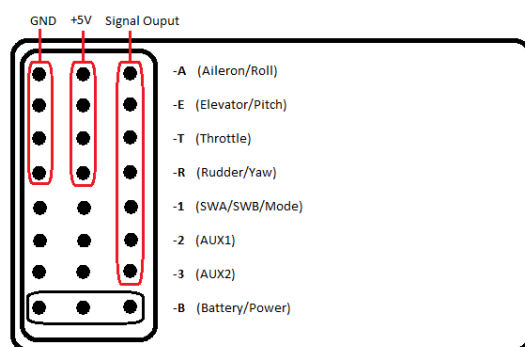

Figure 3: Cheerson Receiver
The receiver that comes with the Cheerson CX-20 drone has 7-channels with output seen as PWM signals indicating the current remote-control value. The 7 channels can be seen in **figure 3**. The only port that is not a PWM output is the power supply (B) port. The receiver's power input is +5V at approximately 41 mA, at port B.